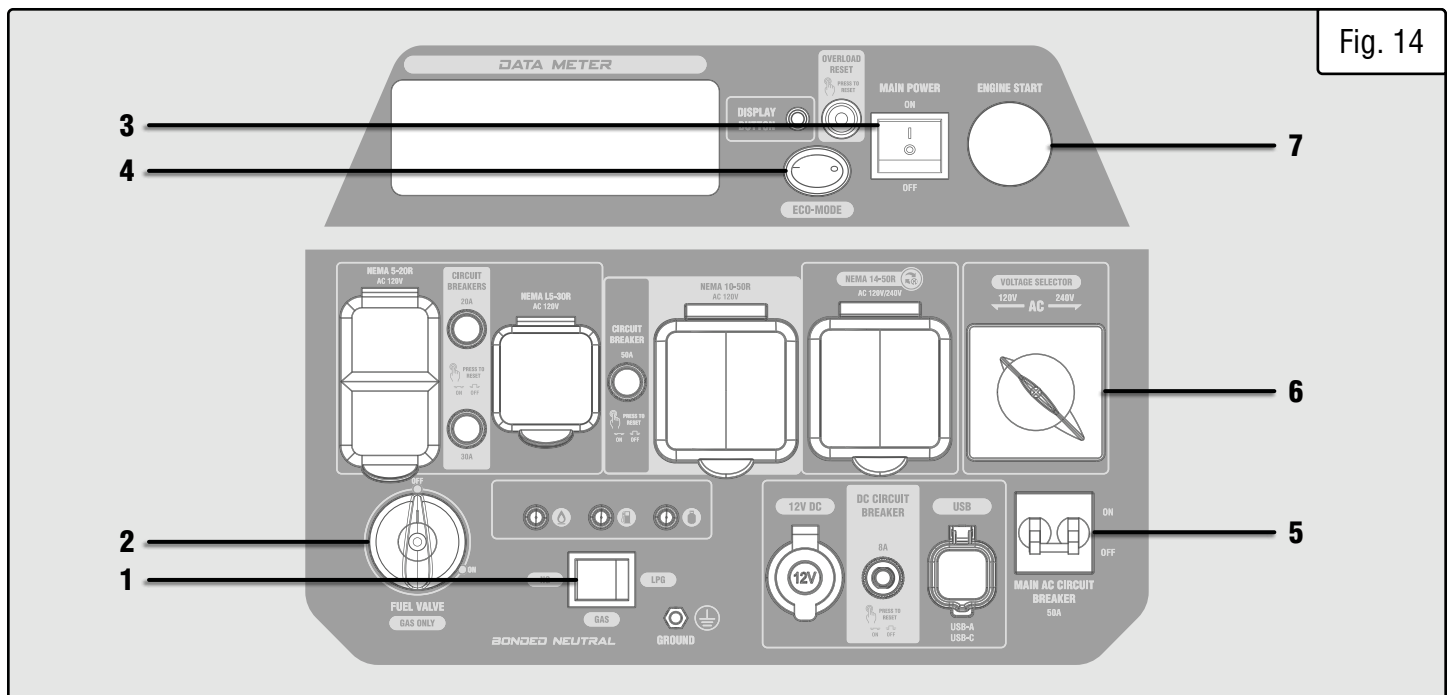

Fig. 14
3. Turn the fuel selection switch (Fig. 14 - 1) to the desired fuel (gasoline, propane, or natural gas). Check that there is adequate supply of the selected fuel (see “Add / Check Fuel”). If using gasoline, check that the fuel valve is turned ON. If using LPG or NG, check that the fuel valve is turned OFF.
1. Turn the FUEL VALVE (Fig. 14 - 2) to the ON position.
2. Turn the MAIN POWER switch (Fig. 14 - 3) to the ON position.
3. Turn the ECO-MODE switch (Fig. 14 - 4) to the OFF position during startup.
4. Turn the MAIN AC CIRCUIT BREAKER (Fig. 14 - 5) to the ON position.
5. Turn the VOLTAGE SELECTOR switch (Fig. 14 - 6) to the desired voltage.
6. Turn the FUEL SELECTOR SWITCH (Fig. 14 - 1) to GAS.
- 7a. Press the ENGINE START button (Fig. 14 - 7). The engine will automatically attempt to start.
1. Turn the FUEL SELECTOR SWITCH (Fig. 14 - 1) to the desired fuel (propane or natural gas).
2. Turn the FUEL VALVE (Fig. 14 - 2) to the OFF position.
3. Make sure that the LPG / NG hose is properly connected to the fuel tank and the inlet on the generator (refer to “FUEL OPTION B: LIQUID PETROLEUM GAS (LPG)” on page 19 and “FUEL OPTION C: NATURAL GAS (NG)” on page 20).
4. Turn the MAIN POWER switch (Fig. 14 - 3) to the ON position.
5. Turn the ECO-MODE switch (Fig. 14 - 4) to the OFF position during start up.
6. Turn the MAIN AC CIRCUIT BREAKER (Fig. 14 - 5) to the ON position.
7. Turn the VOLTAGE SELECTOR switch (Fig. 14 - 6) to the desired voltage.
8. Press the ENGINE START button (Fig. 14 - 7). The engine will automatically attempt to start.